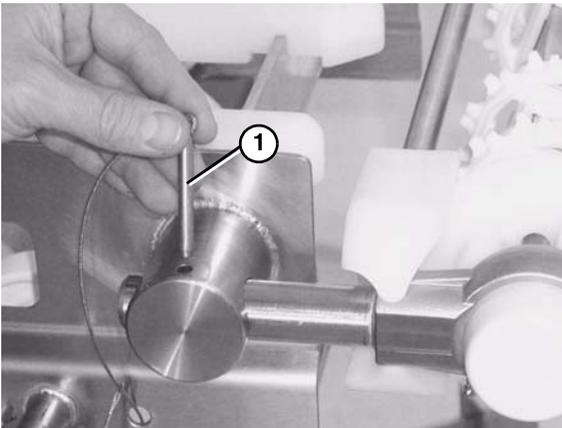

Figure 64
5. Remove the pull pin (Figure 64, item 1).
1. Remove the pull pins (Figure 64, item 1).